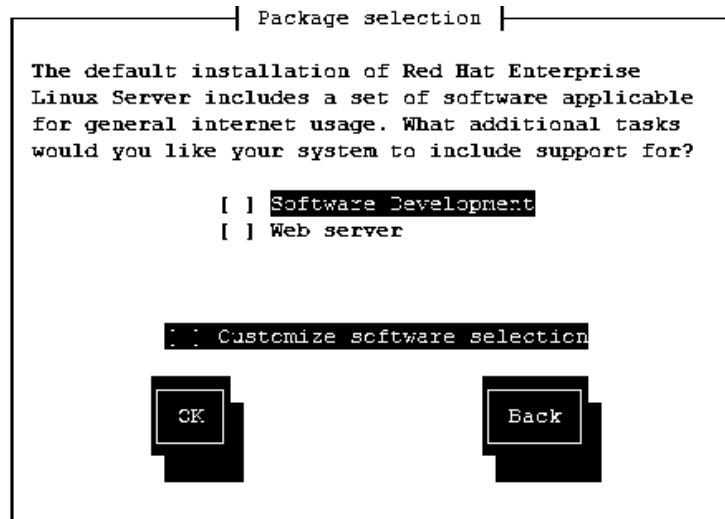

Figure 8-18 Select additional packages panel
22. Select any additional software applications with the Space bar and press **OK** when complete, as shown in Figure 8-18 on page 351